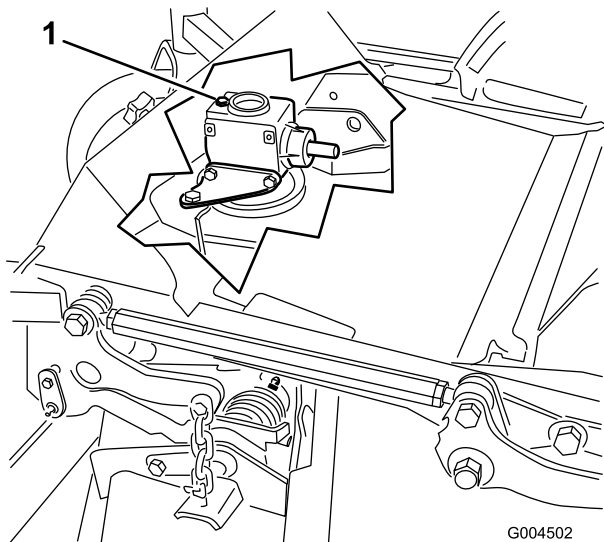

Figure 42
- Remove the dipstick/fill plug from the top of the gear box (Figure 42) and make sure that the lubricant is between the marks on the dipstick.
- Remove the dipstick/fill plug from the top of the gear box (Figure 42).